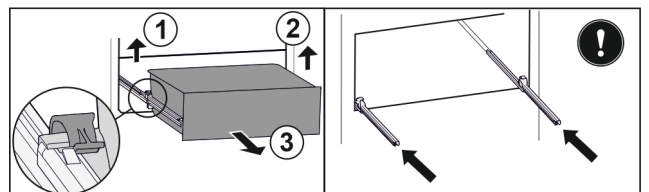

Fig. 219
- ▶ Lift left clamp and simultaneously pull drawer forwards on the left. Fig. 219 (1)
- ▶ Lift right clamp and simultaneously pull drawer forwards on the right. *Fig. 219 (2)*
- ▶ Remove drawer to the front. *Fig. 219 (3)*